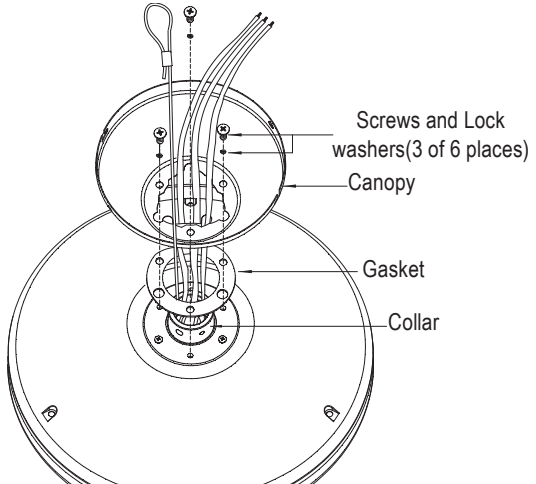

Fig. 8
**Step 3.** Remove three of the six screws and lock washers (every other one) from the collar of top motor. (Fig. 8)
**Step 4.** Place the ceiling canopy with decotation ring and the gasket over the collar at the top of the motor. Align the mounting holes with the holes in the motor and fasten using the screws and lock washers provided. (Fig. 8)